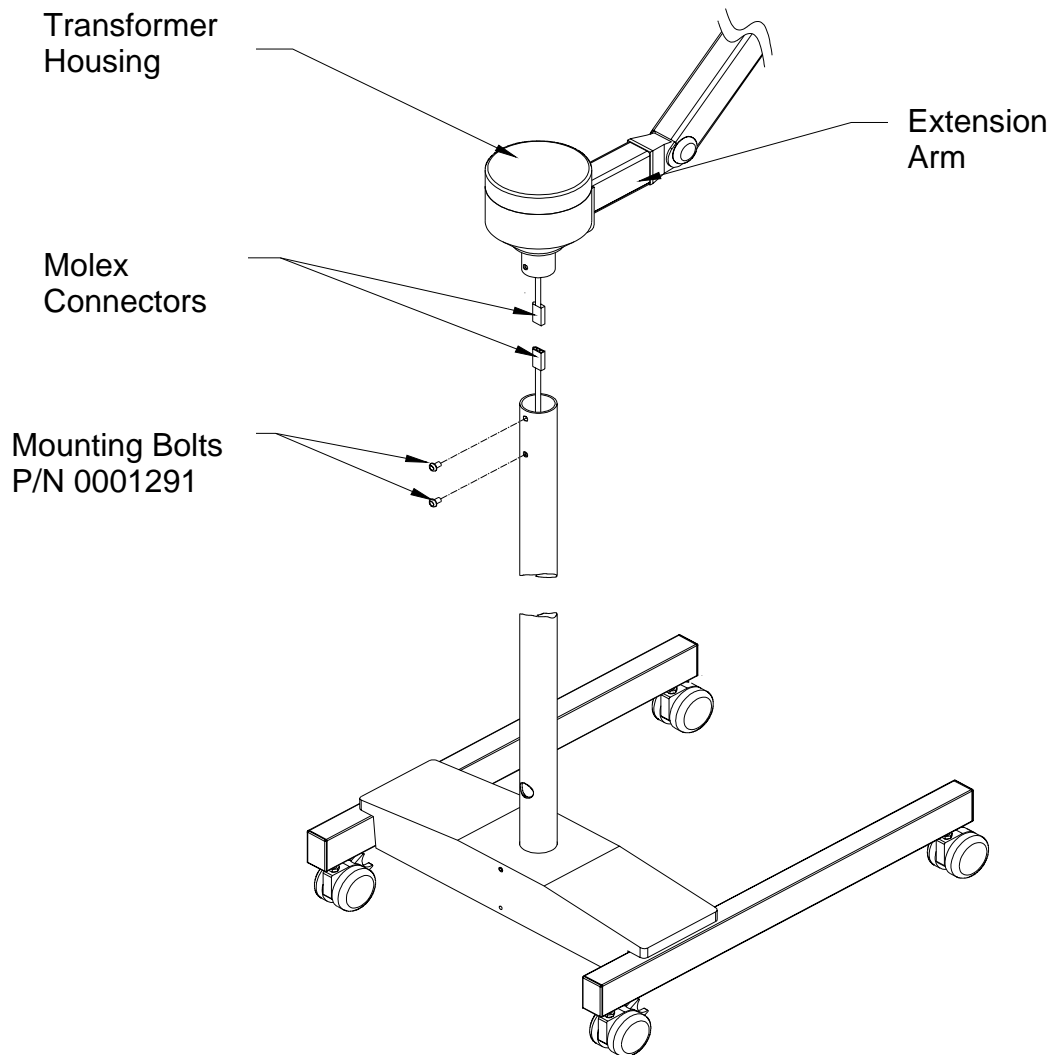

FIGURE 14: Arm Assembly to Upright Pole Installation
- The light arm should be between the extended legs as shown in figure 14.